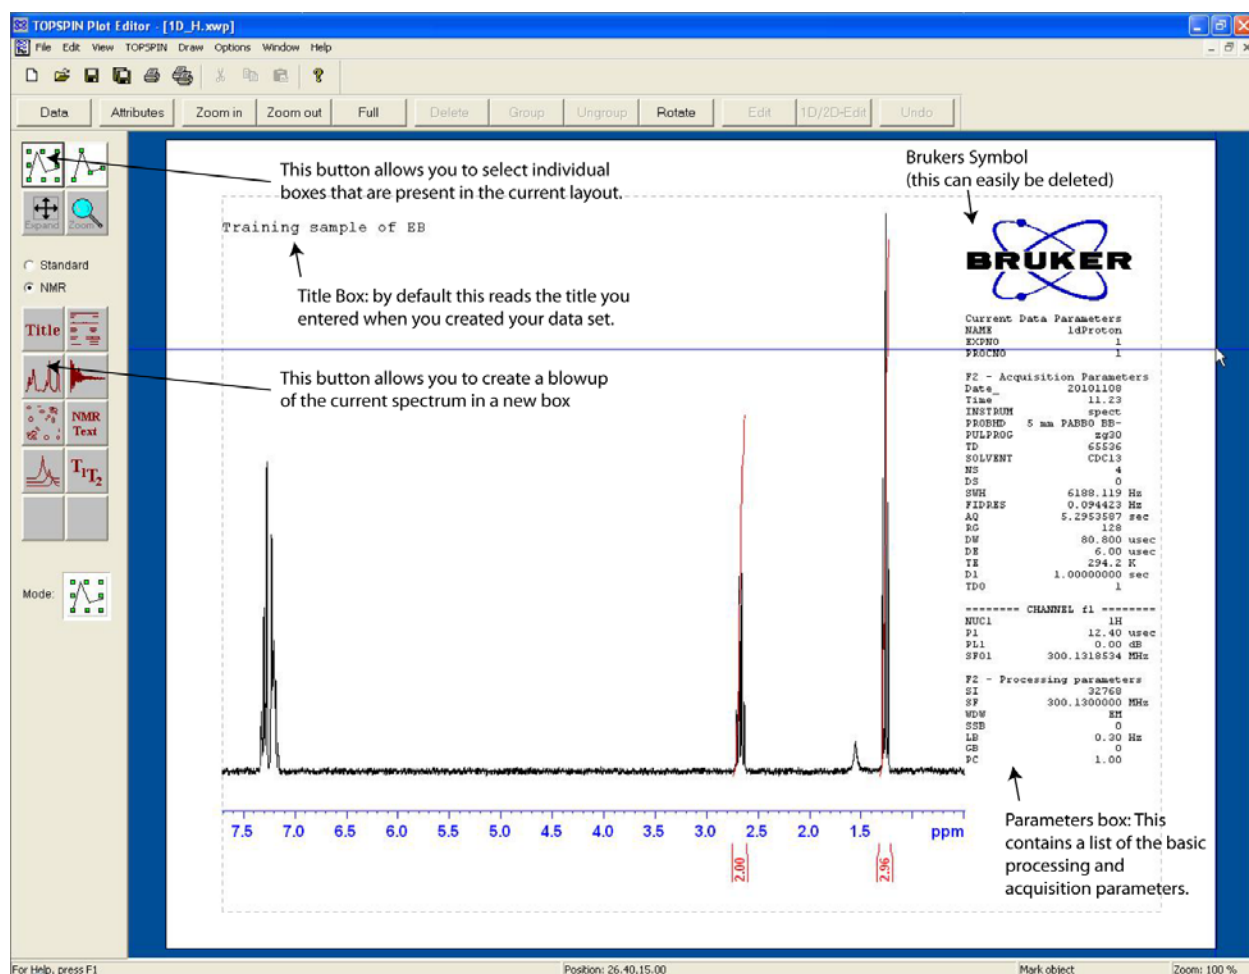

Figure 27 The default plot editor layout
(21) Now that your spectrum has been acquired and processed it is time to prepare the spectrum for printing. Topspin uses a tool known as the plot editor to do this. The plot editor can be opened by left clicking on “Plot Editor” in the NMR step-by-step. Figure 27 shows the default layout that will open with the plot editor. This manual will provide very simple instructions for using the plot editor; however plot editor is a very powerful tool and users may wish to spend some additional time becoming more familiar with its use. The default layout contains several different boxes (shown below) including: the parameters box, title box, Bruker symbol box, and the main spectrum box.